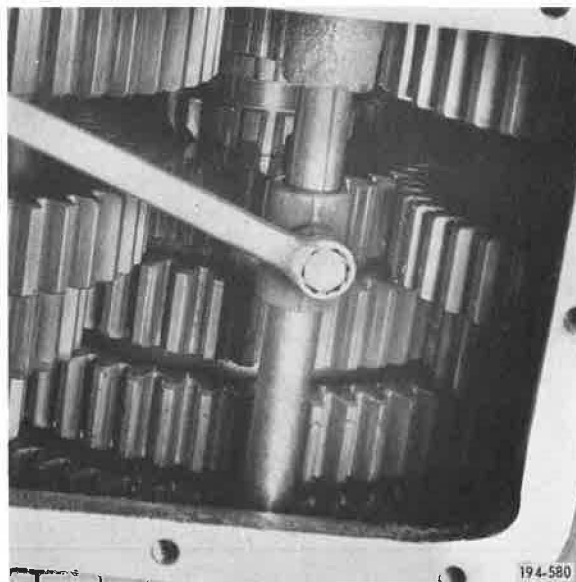

Figure 35. Removing Setscrew
34. (Rearward controls only) Remove second/third speed shifter setscrew. See Figure 35.